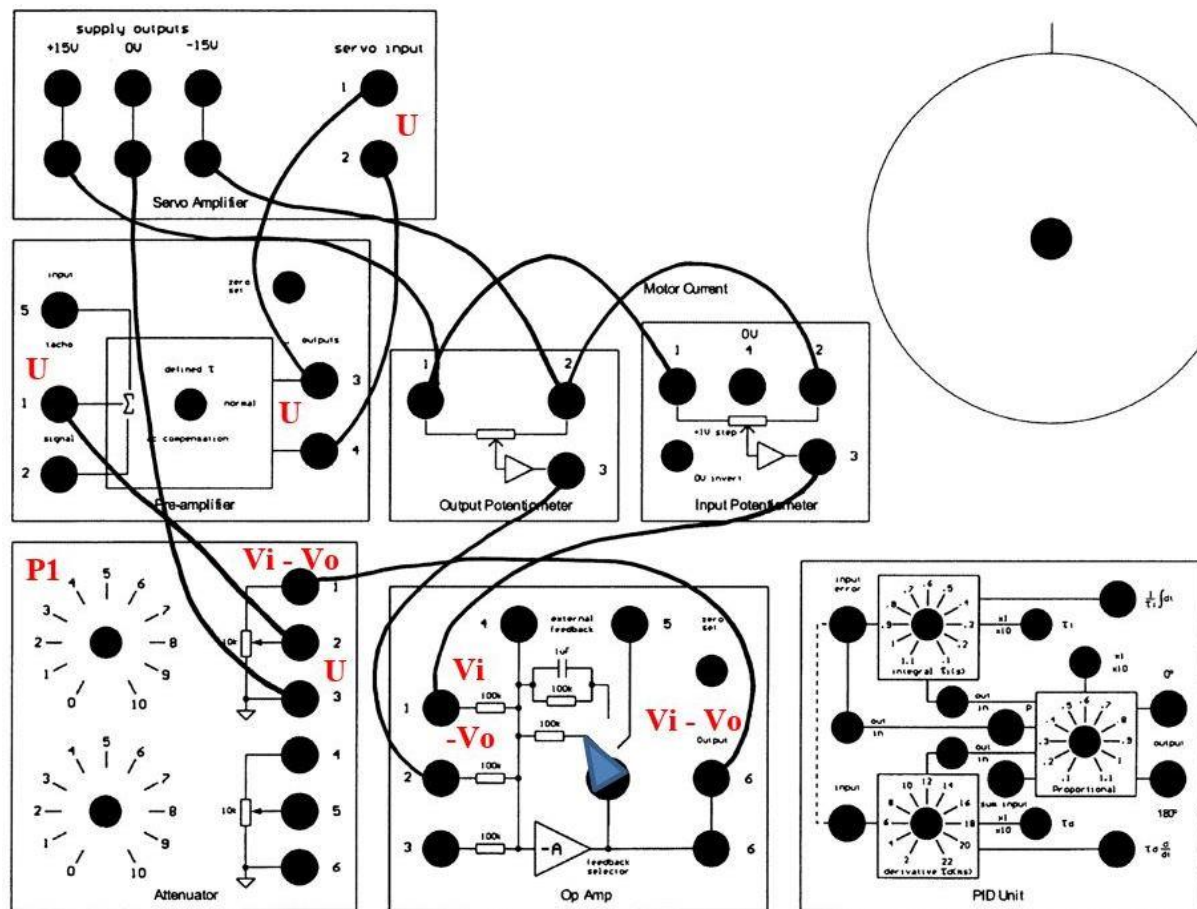

Figure 4.1
- Connect the circuit as shown in Figure 4.1.
- From Figure 3.1, one has $U = K_2(V_i - V_o)$ and from Figure 4.1, $\frac{U}{V_i - V_o} = \frac{P1}{10}$